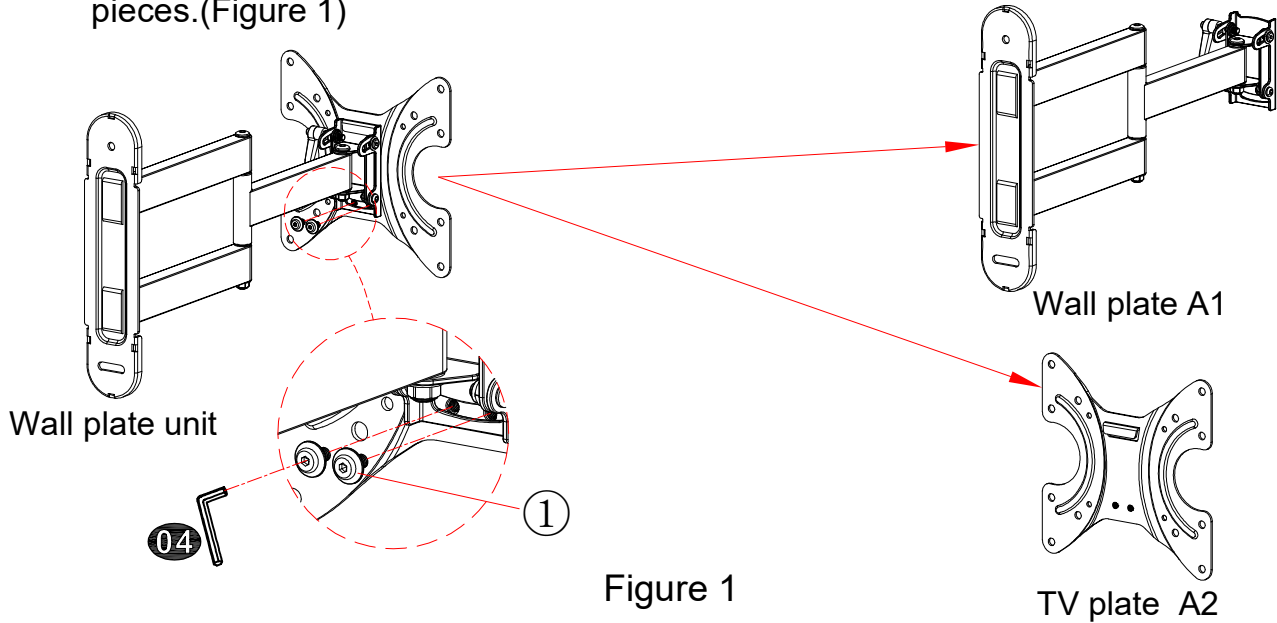

Figure 1
Step 1: Remove the bolts ① with Allen key ④ to separate wall plate unit (A) into two pieces.(Figure 1)